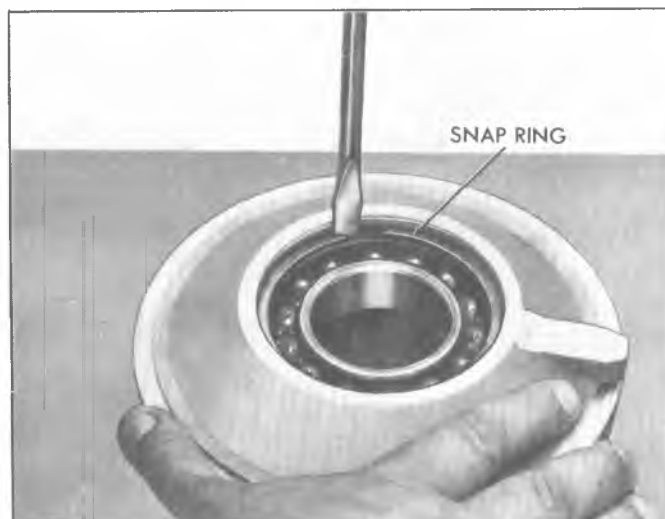

Fig. 13F—Removing Input Shaft Bearing-to-Retainer Snap Ring
4. Using a screw driver, pry behind open end of large snap ring retaining input bearing in bearing retainer (fig. 13F) and remove ring from retainer. Tap bearing from retainer.
5. Remove pilot roller bearings (15) from end of input shaft.